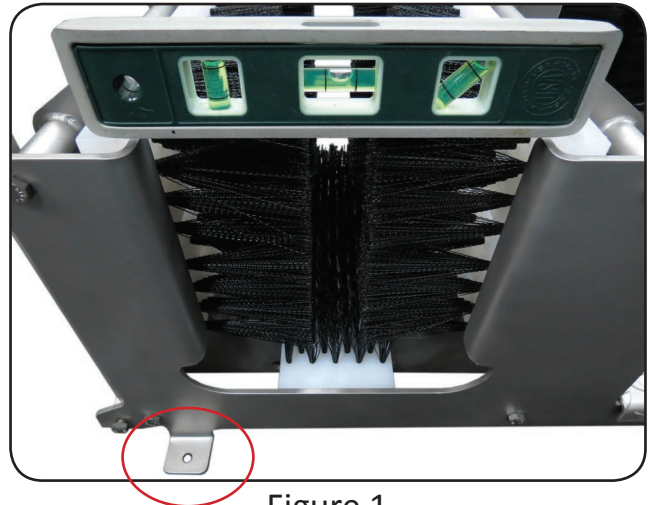

Figure 1
3. Once the unit is in the desired location, use a level to make sure the unit is stable and level in all directions. Make sure the location is a flat surface. (Figure 1).
4. Securely fasten unit to the floor with concrete anchors and bolts through the 4 mounting brackets (Circled in red in Figure 1 & 2).